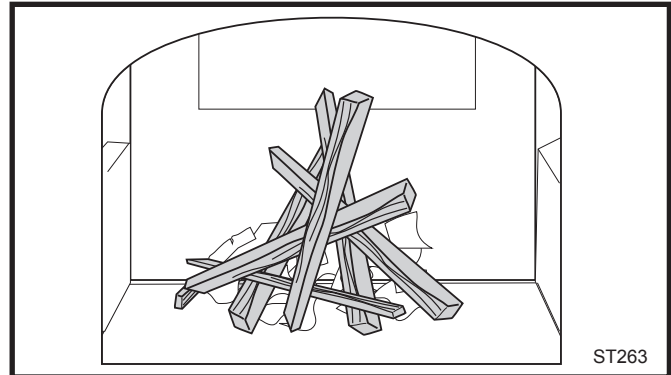

Fig. 33 Start the fire with newspaper and dry kindling.
2. Place several sheets of crumpled newspaper in the stove. Do NOT use glossy advertisements or colored paper, as they can poison the catalyst. Place on the paper six or eight pieces of dry kindling split to a finger-width size, and on the kindling lay two or three larger sticks of split dry wood approximately 1-2" (25-50 mm) in diameter. (Fig. 33)